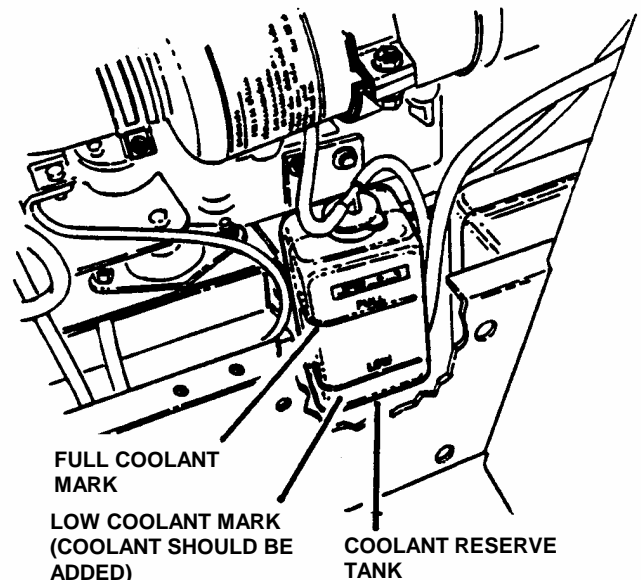

FIGURE 2.3
- 2.1.7. **COLD ENGINE ONLY** - Check engine coolant (antifreeze/water) and add coolant in the reserve tank as needed to bring level up to the FULL mark. Refer to engine owner's manual for coolant ratio specifications. See Figure 2.3.